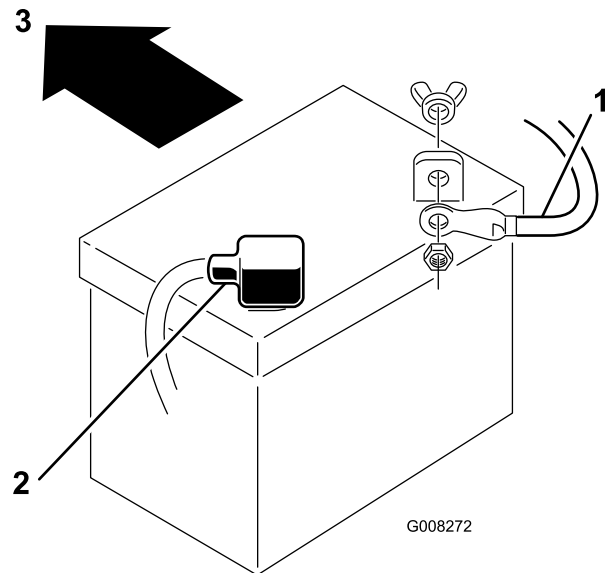

Figure 33
7. Disconnect the negative (black) ground cable from the battery post (Figure 33).
9. Disconnect the positive (red) cable from the battery post (Figure 33).
1. Place the battery into the chassis with the battery posts toward the rear of the machine (Figure 33).
3. Using the bolt and wing nut, connect the positive (red) cable to the positive (+) battery post (Figure 33). Slide the rubber cover over the battery post.
(Figure 33). Slide the rubber cover over the battery post.